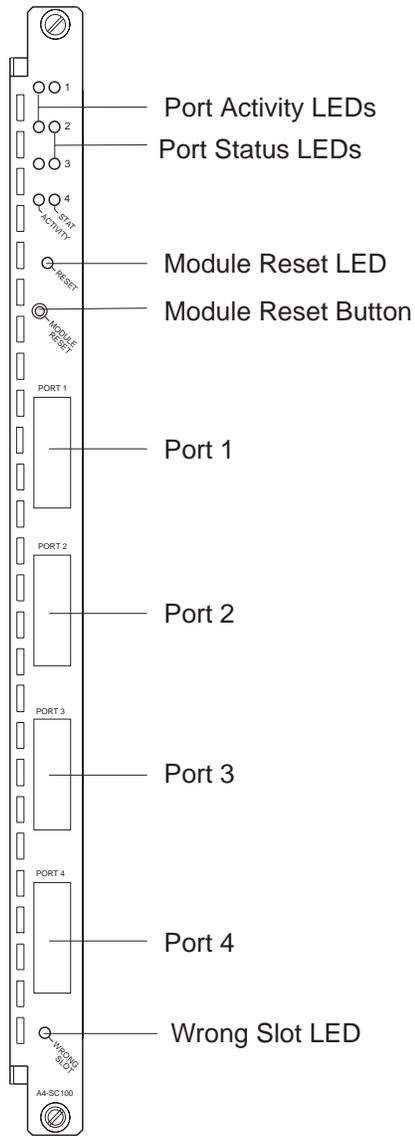

Figure 22. 100 Mbps Module Front Panel
Refer to Figure 22 when installing and configuring the 100 Mbps module.
- The port and module LEDs on the module faceplate (see Figure 22 on page 82)